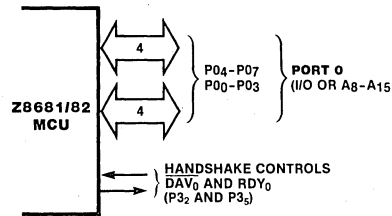

Figure 9. Port 0
**Port 0\*** can be programmed as a nibble I/O port, or as an address port for interfacing external memory (Figure 9). When used as an I/O port, Port 0 can be placed under handshake control. In this configuration, Port 3 lines  $P3_2$  and  $P3_5$  are used as the handshake controls  $DAV_0$  and  $RDY_0$ . Handshake signal assignment is dictated by the I/O direction of the upper nibble  $P0_4$ - $P0_7$ .